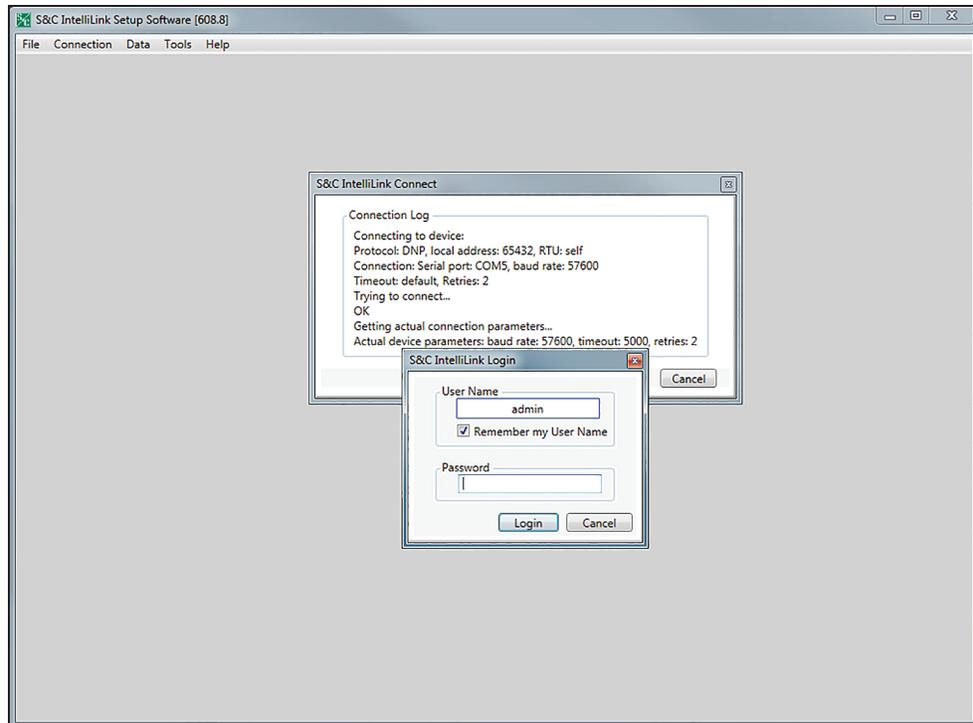

Figure 14. The IntelliLink Setup Software Login dialog box.
STEP 7. Log in to the control and follow the dialog instructions. If prompted during the upgrade, enter the default username and password. See Figure 14 on page 44.